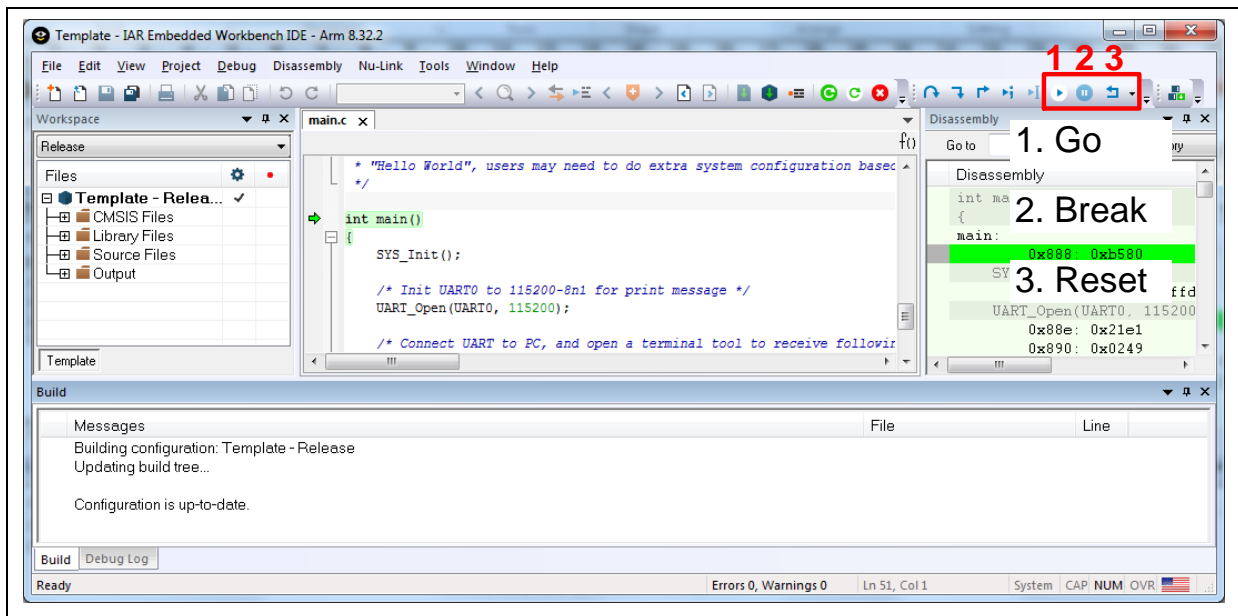
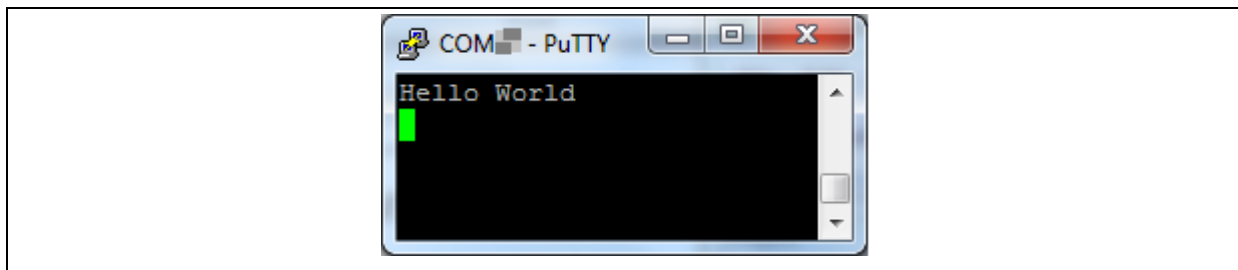

Figure 3-17 IAR EWARM Debug Mode
Figure 3-18 Debug Message on Serial Port Terminal Windows
4. Figure 3-17 shows the debug mode under IAR EWARM. Click “Go” and the debug message will be printed out as shown in Figure 3-18. User can debug the project under debug mode by checking source code, assembly language, peripherals’ registers, and setting breakpoint, step run, value monitor, etc.